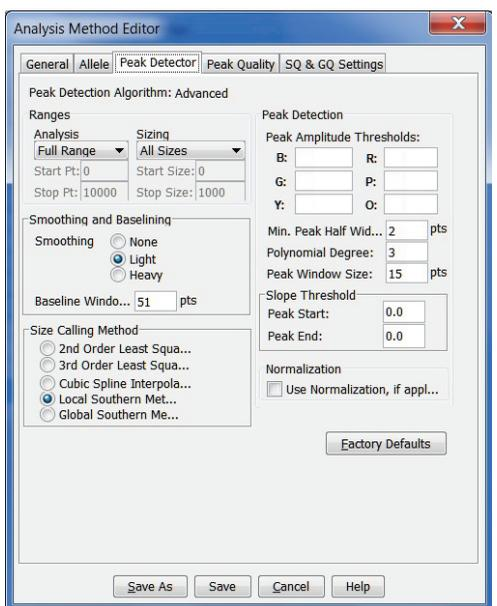

Figure 15. The GeneMapper® ID-X Software, Version 1.4, Peak Detector tab.
9. Select the Peak Detector tab (Figure 15). You may need to optimize these settings. In-house validation should be performed.